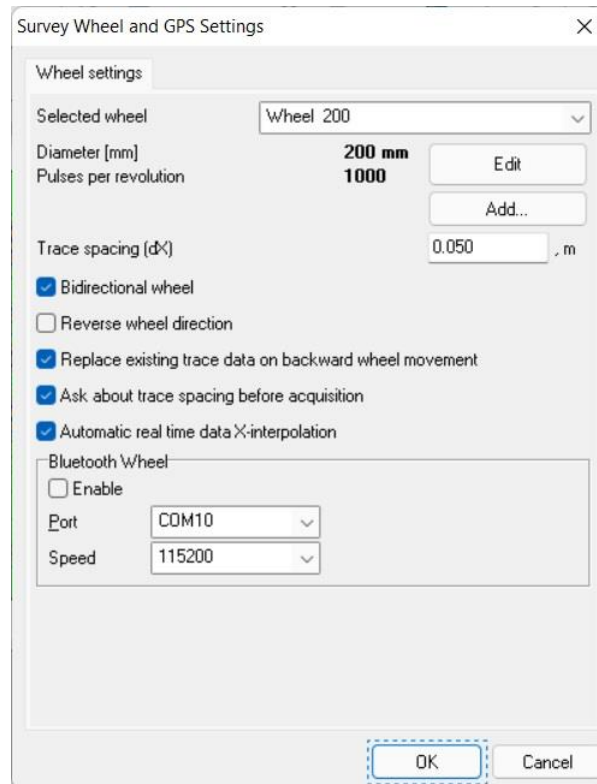

Fig.8.1. Survey wheel settings
- **Wheel** – survey wheel method of positioning. It is possible to use different types of measuring wheels (for example, our current measuring wheel has a diameter of 200 mm, a shock-proof cart wheel has the diameter of 250 mm, but a built-in 1500 MHz antenna wheel has the diameter of 80 mm). The wheel positioning can be selected in the main menu (see Fig. 8.1) or in the GPR Setup (take a look on Section 9. GPR tuning at the page 35). The GPR has a wheel interface and counts pulses got from the wheel encoder. Software has to know the wheel parameters to recalculate it to the traveled distance. A difference of a few mm in diameter can lead to meter errors while measuring the traveled distance. There are two possibilities to describe the wheel: